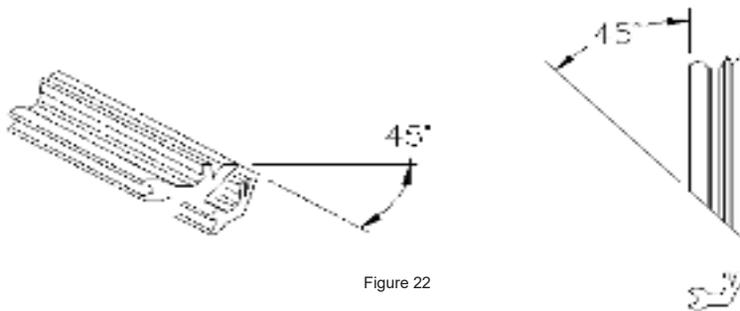

Figure 22
c. Trim the end of the floor seal at a 45° angle at both ends (Figure 22). The angle on the seal pushes the adhesive into the seal groove. Pull the floor seal into the floor slat. The open end of the “Y” must be towards the top of the slat (Figure 23). Pull the polyurethane (black) seal short of the full length by the dimension “X”. The dimension “X” varies with the floor slat length. Refer to Figure 24 to determine the correct “X” length. Cut the floor seal off flush with the end of the floor slat (Figure 25). If using the polyethylene seal (blue) pull it flush with the end of the floor slat (Figure 26).